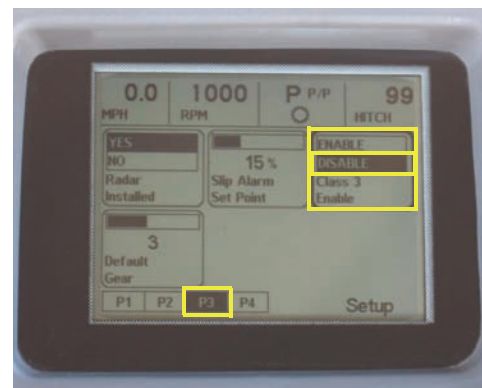

Figure 1d: Setup screen - page 3 (P3). Class 3 Enable box with DISABLE selected.
d. In page 3 (P3) of the setup screen, use the left and right arrow buttons to select the Class 3 Enable box (with DISABLE selected) (Figure 1d).